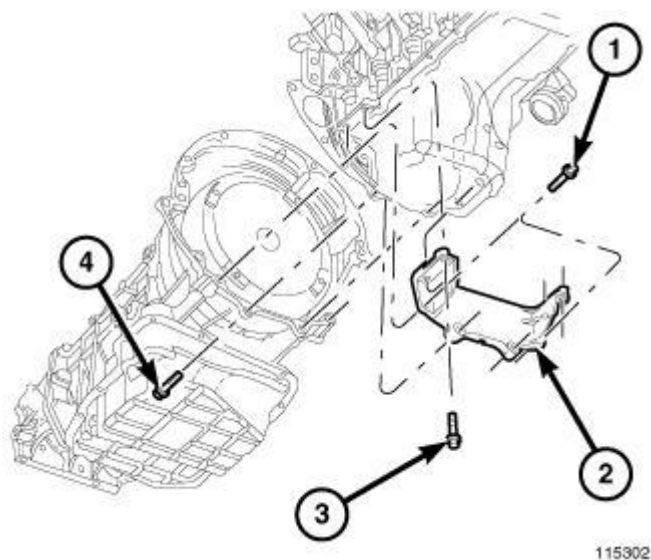

Fig. 77: Structural Cover
2. Install all four bolts (1, 2, 3) retaining the cover-to-engine. Refer to **Fig. 77**. DO NOT tighten the bolts at this time.